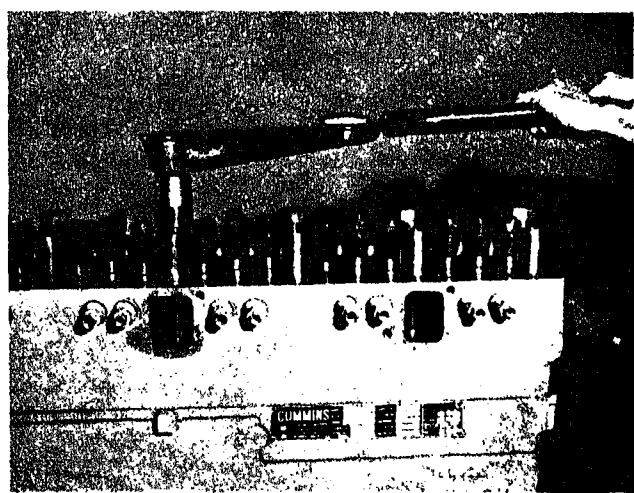

Fig. 14-1-47. Torquing cylinder head capscrews
7. Continue to tighten capscrews, in 100 ft. lbs. [13.8300 kg m] increments, to 300 ft. lbs. [41.4900 kg m] for $\frac{3}{4}$ in. [19.0600 mm] capscrews, or to 200 ft. lbs. [27.6600 kg m] for $\frac{1}{2}$ in. [12.7000 mm] capscrews, Fig. 14-1-47.